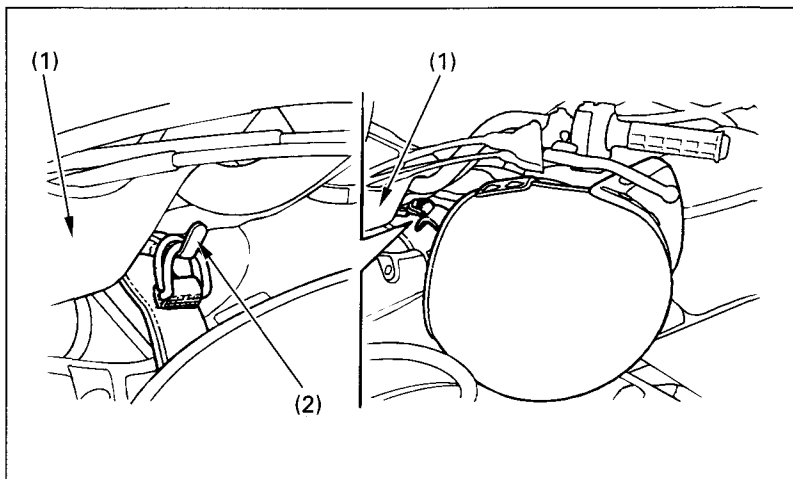

Fig. 2-20 (1) Handlebar cover (2) Helmet holder
The helmet holder (2), (Fig. 2-20) is a bracket near the left side of the handlebar cover (1). To use the holder, hang the D-ring on your helmet strap over the bracket. Use the helmet holder only when the FOURTRAX is parked.